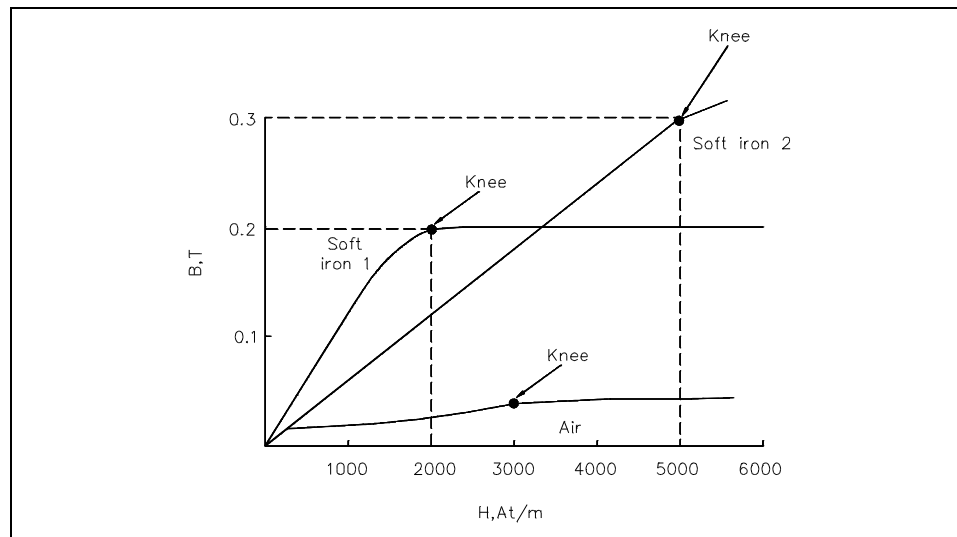

Figure 27 Typical BH Curve for Two Types of Soft Iron
The BH Magnetization Curve (Figure 27) shows how much flux density (B) results from increasing the flux intensity (H). The curves in Figure 27 are for two types of soft iron cores plotted for typical values. The curve for soft iron 1 shows that flux density B increases rapidly with an increase in flux intensity H, before the core saturates, or develops a "knee." Thereafter, an increase in flux intensity H has little or no effect on flux density B. Soft iron 2 needs a much larger increase in flux intensity H before it reaches its saturation level at  $H = 5000$  At/m,  $B = 0.3$  T.
Air, which is nonmagnetic, has a very low BH profile, as shown in Figure 27.
The average value of permeability is measured where the saturation point, or knee, is first established. Figure 27 shows that the normal or average permeability for the two irons as follows.